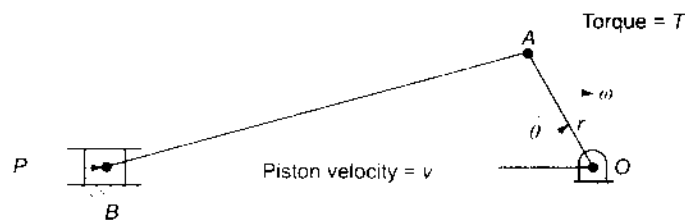

Fig.9.18
- 32 Diagram of a piston–crank mechanism is shown in Fig.9.18. Crank is rotating in the clockwise direction with an angular velocity ω . Find a relationship between the crank torque T and the piston effort P . Neglect friction. Draw velocity triangle.